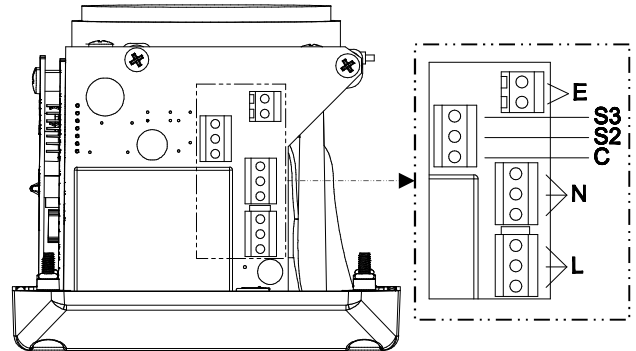
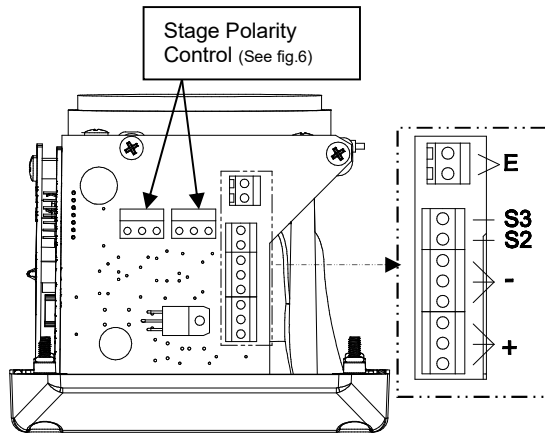

Fig. 5 AC Terminals
Fig. 8 DC Terminals
- c) Fit an M20x1.5 suitably rated, certified cable gland or conduit entry into the hole in the enclosure and connect the field wiring to the appropriate alarm horn terminals as shown in section 9 and fig 8 (DC) or section 8 fig 5 (AC) of this manual. The power supply terminals are duplicated so that alarm horns may be connected in parallel and for DC units only an end of line monitoring resistor may be fitted. If the second M20x1.5 entry is not used a suitably rated, certified stopping plug must always be fitted.
Stage one (S1) operation: Simply connect the supply voltage to the L and N supply terminals (See fig. 5).
Stage one (S1) operation: Simply connect the supply voltage to the + and - supply terminals (See fig. 8).
Internal earthing connections should be made to the internal earth terminal on the PCBA, (please see fig 8 for DC, fig 5 for AC). The earth conductor should be at least equal in size and rating to the incoming power conductors. The internal earth bonding wire connects the PCBA earth terminal to the internal earth terminal in the enclosure back box.